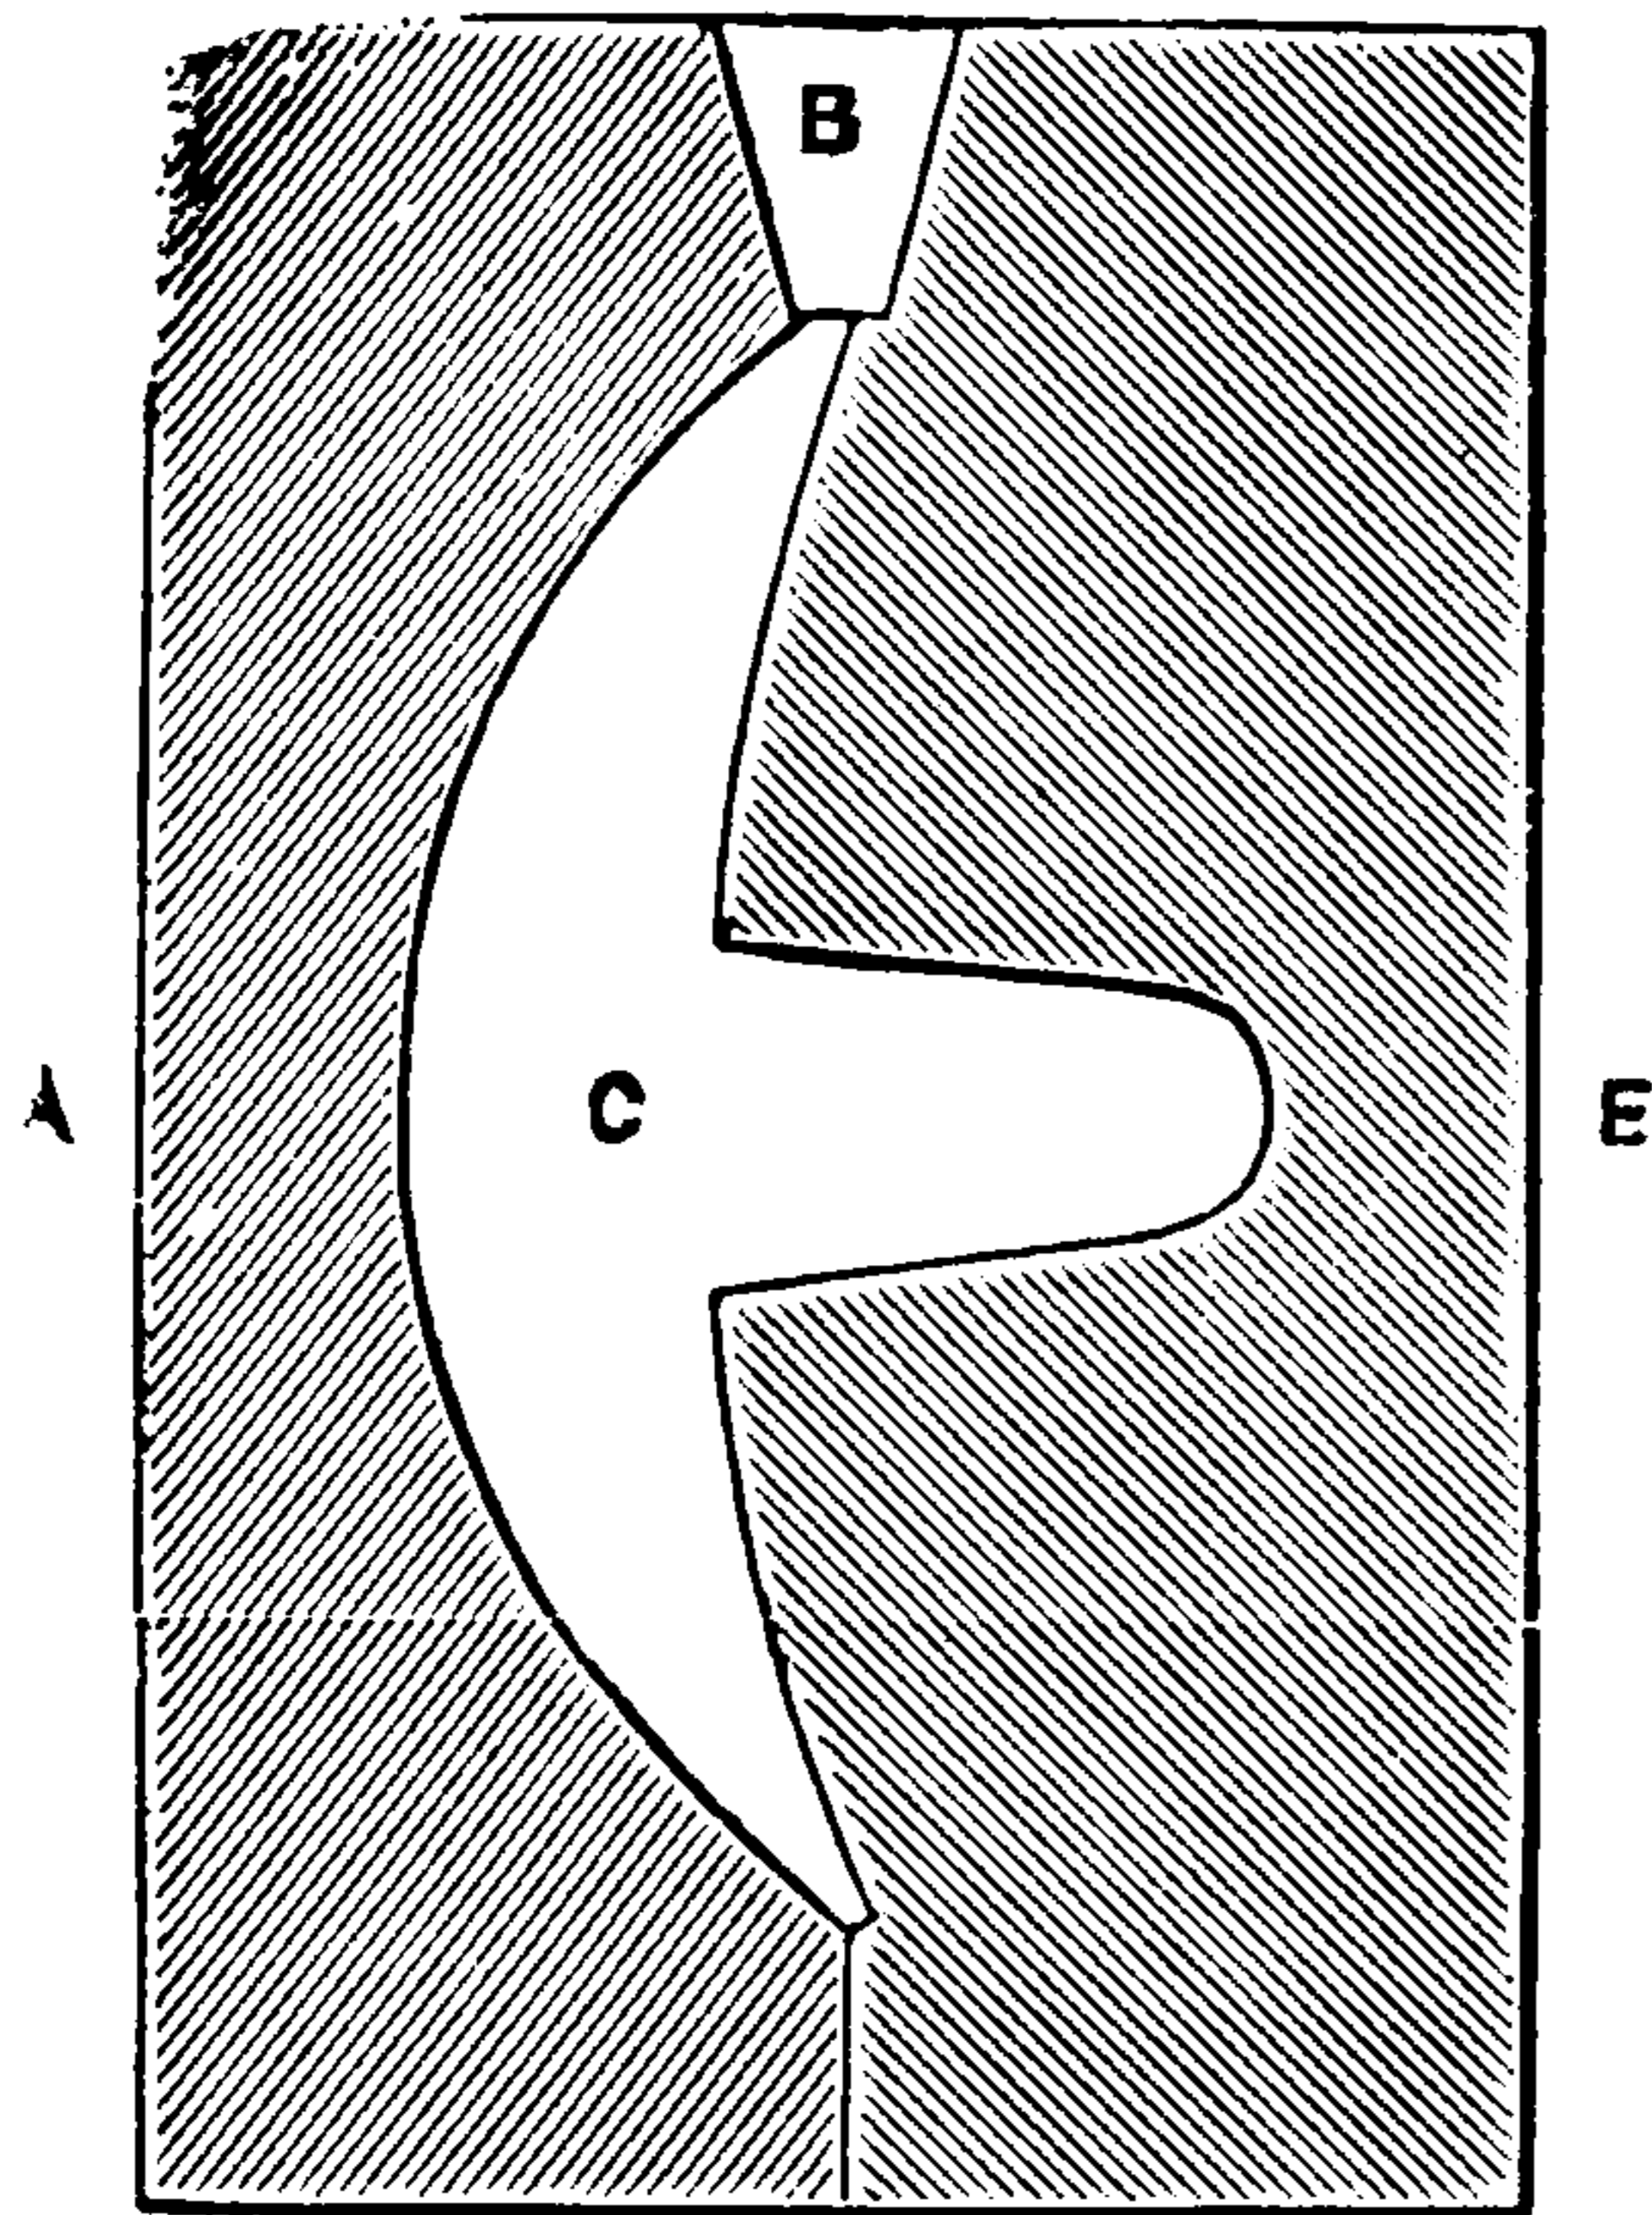
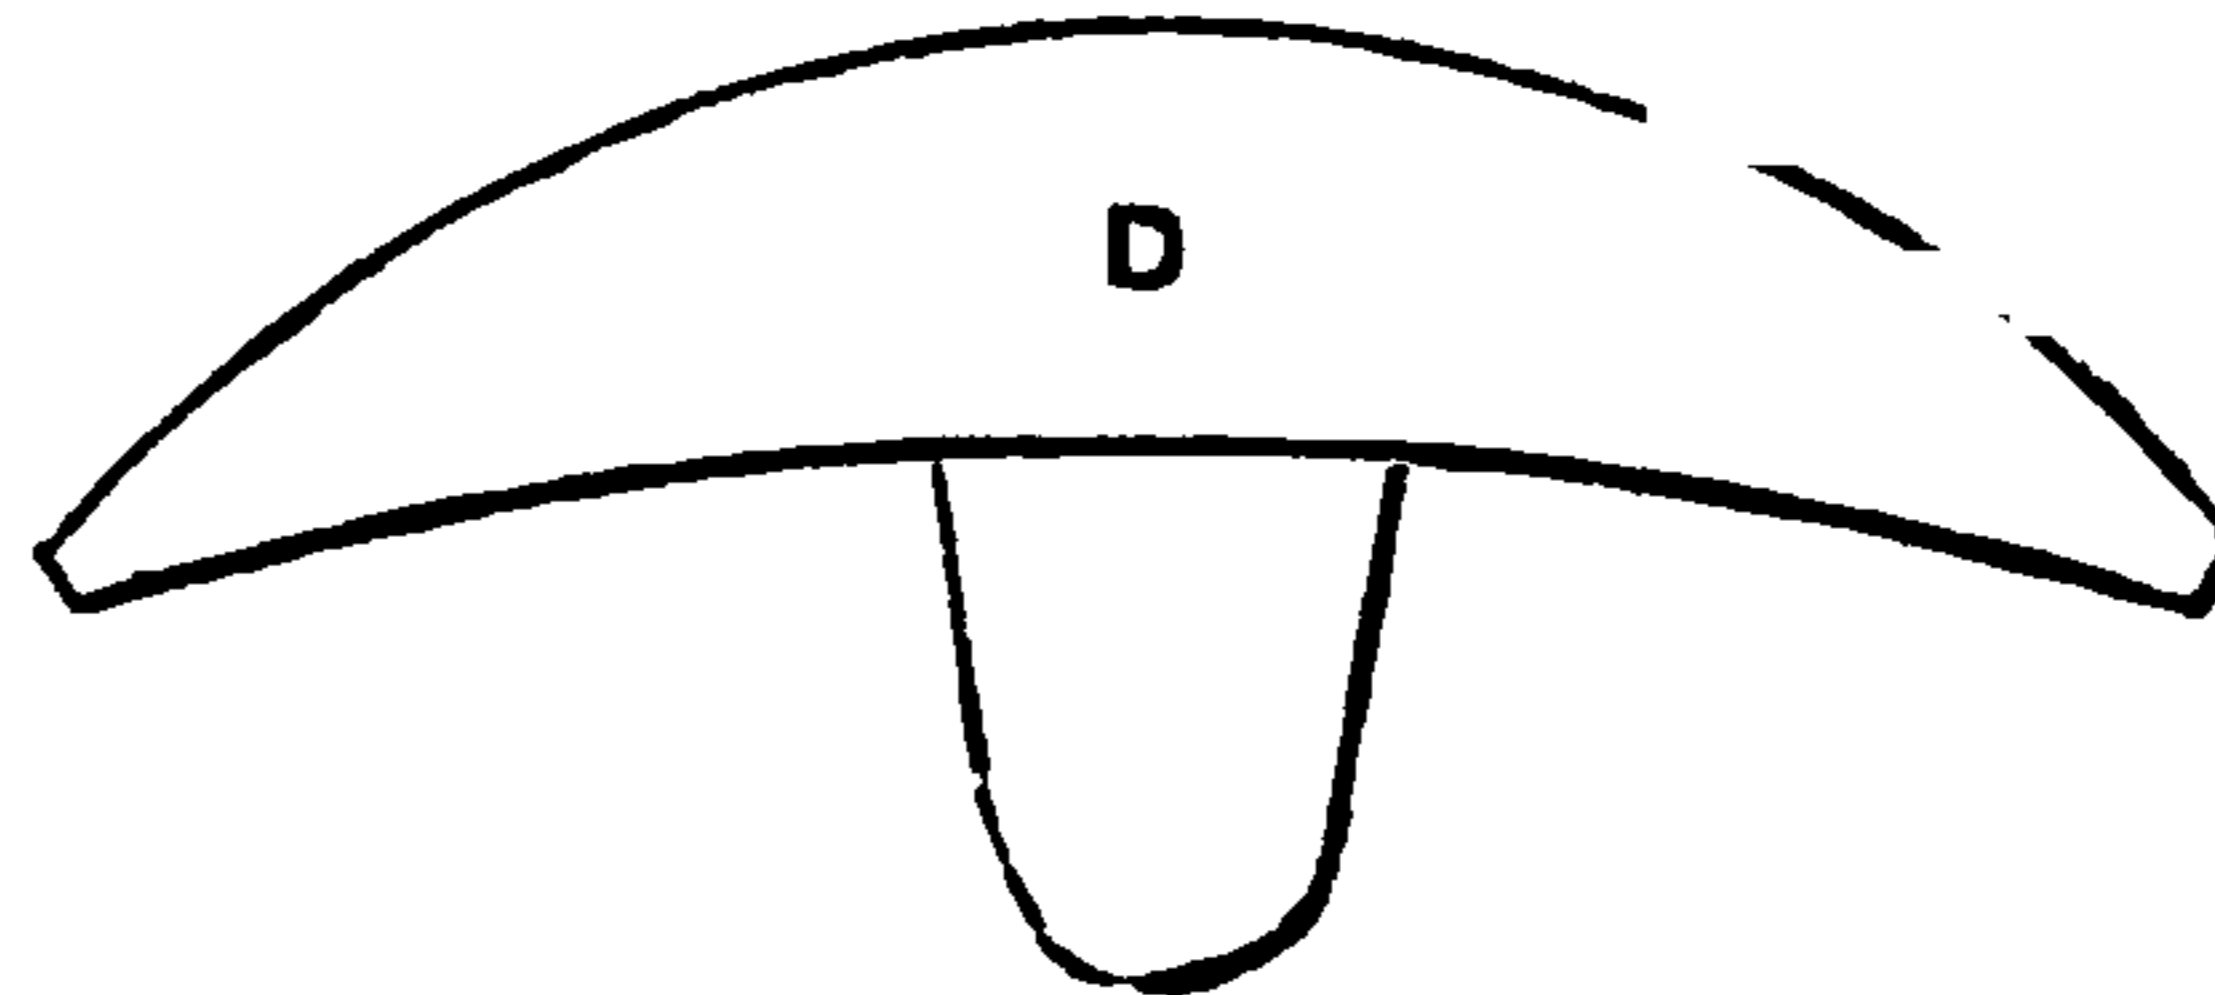

FIG. 24.
FIG. 25.
**Fire-pot or Devil.**—This is made of various sizes, according to the class of work. For ordinary use it may be constructed of  $\frac{1}{4}$ in. sheet iron, about 10in. round and 10in. deep, with a grate in the bottom, the bars of which do not exceed  $\frac{1}{2}$ in. apart. The fire-pot should stand upon three legs 1ft. long, and should have two or three 2in. holes in the sides for the irons, and an arched piece of iron over the top to hang the pot upon. Various kinds of plumbers' stoves are in the market, but none to equal the old-fashioned shaped "Devil." A sieve of  $\frac{1}{4}$ in. mesh and a shovel should be in the shop for the sand-work. The *lead clack mould*, for casting lead pump clacks, can be obtained at the lead merchant's. It is only an iron box in two halves, with the patterns or moulds of the clacks. [See Lead Clack Moulds, Fig. 24]. A *set of stocks and dies* [see my book on Hot Water and Gas Work] is indispensable in the plumber's shop. The best are the solid circular dies, which cut in quarter the time of others. A few *punches* for leather, of various sizes, are always handy for cutting washers. Of *gas tongs*, the old-fashioned are by far the best for work. The *tube cutter* should have three knives, as they are better for cutting out a length of iron pipe. For ordinary work take the two front wheels out and work with one. This plan is less likely to spoil the cutters.
These clacks are cast in a two-sided mould [see Figs. 24, 25, 26]. C is the clack; *rivet* is the part which holds the clack upon the leather. The method of casting these clacks
will be readily seen by reference to Fig. 24. E and E are the two sides of the clack mould placed together, having a clack cast therein. To cast this clack, make the mould hot, and place the sides as shown. Pour in the lead, and as soon as it is set turn the clack out, and fill up the mould again and again, until you have the required quantity. Having shown you the clack mould, I will explain another method of casting the lead clack when you have no mould. Have a
pattern made of wood to the shape and size required, with a piece of wood nailed on to form a rivet. Press the pattern rivet-side downwards into some sand, and fill it up with lead. Here you get a good clack, with flat top, instead of rounded [as shown at Fig. 24]. These clacks are the best for
drawing the sucker, as will be hereafter explained. Fig. 25 is a full-sized elevation of the clack cast in the mould, Fig. 24.